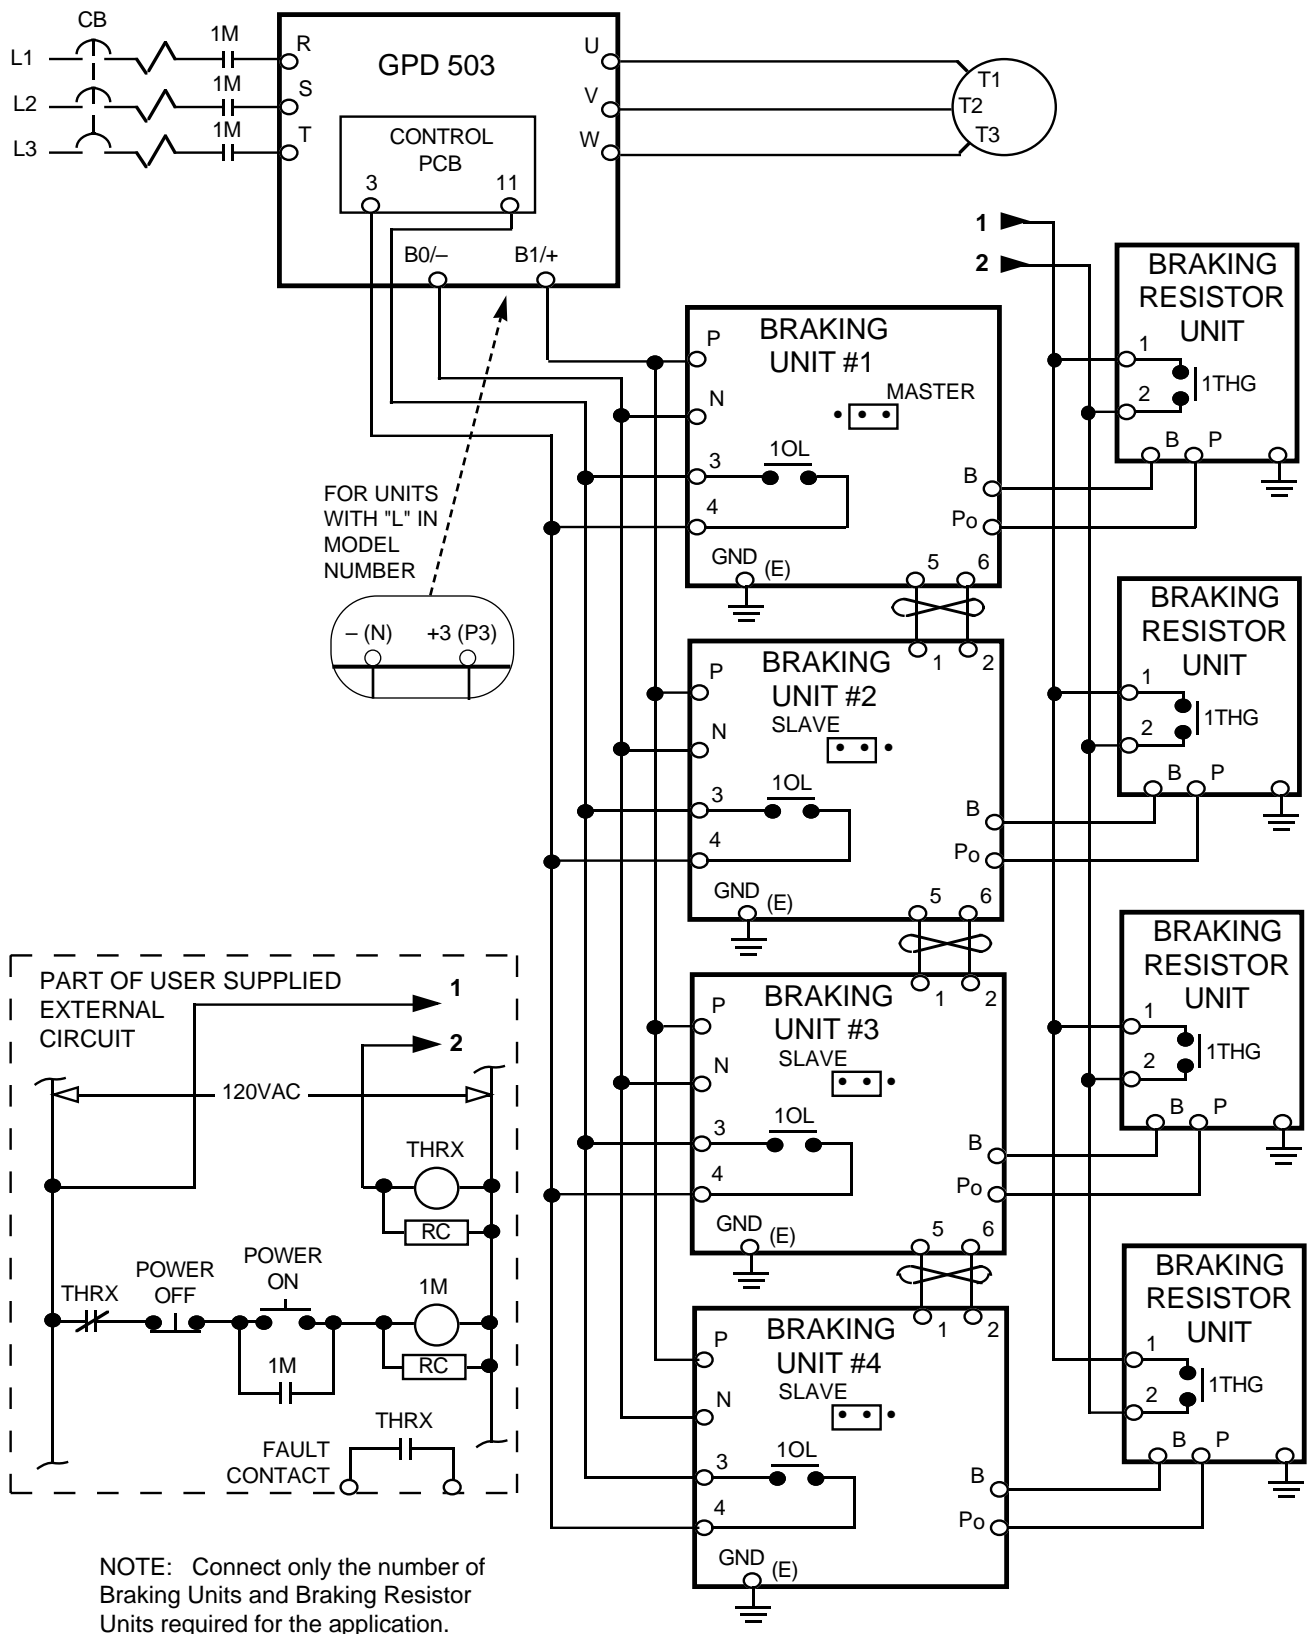

Figure A7-5. Wiring Multiple Braking Units and Braking Resistor Units to Drive (230V 40-100HP(CT), 460V 75-400HP(CT), 575V 60-200HP(CT))
- If two or more Braking Units and Braking Resistor Units are being installed, connect them to the drive and to external circuitry according to the chart below and Figure A7-5.